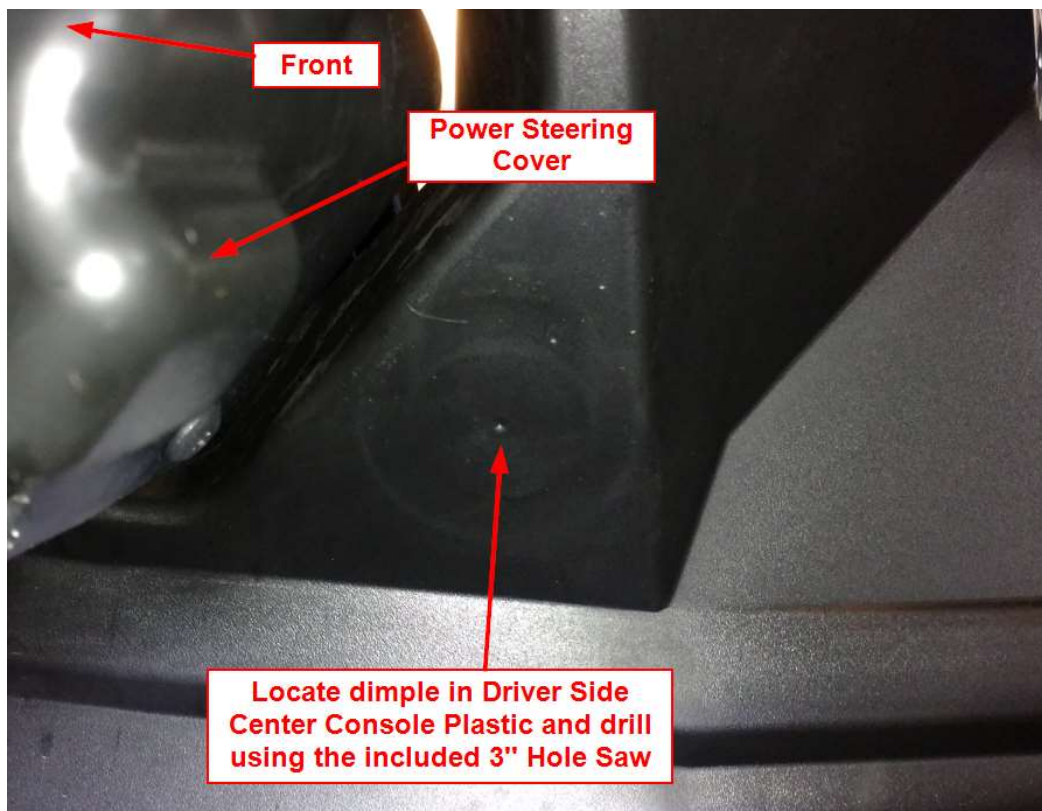
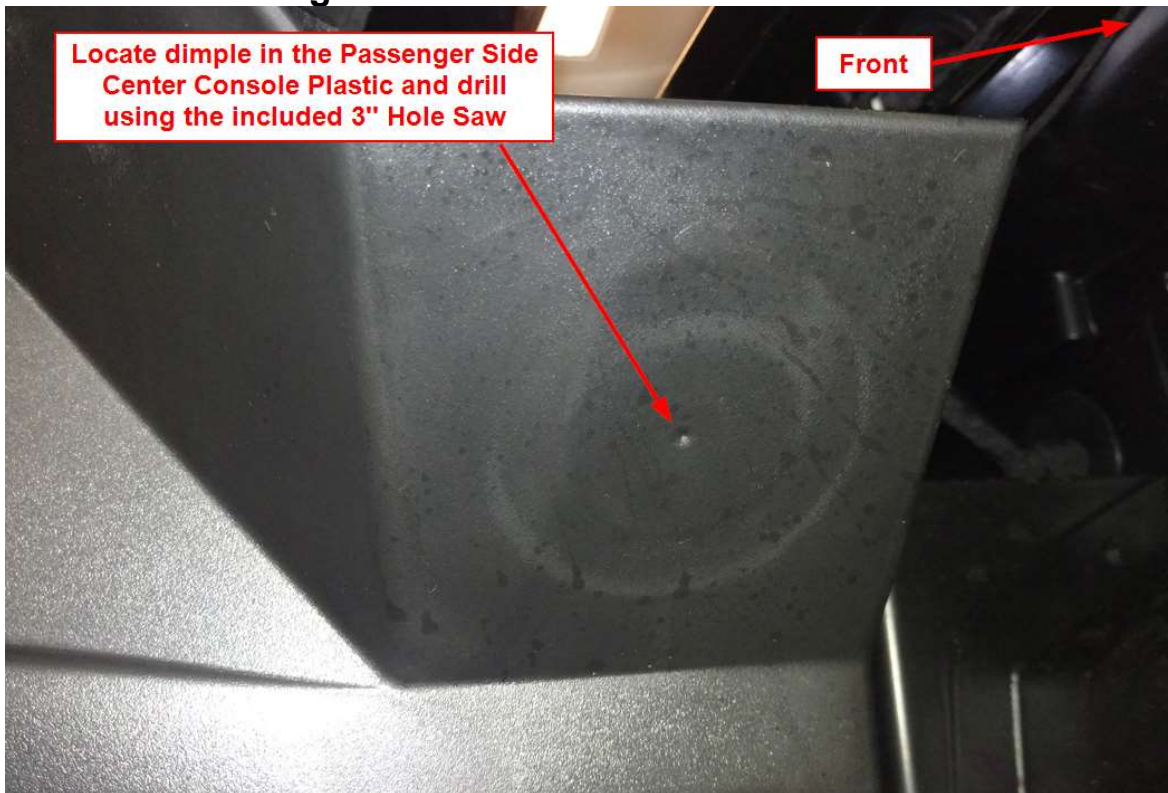

Figure 10
Figure 11
- c. Locate the dimples in the Center Tunnel on the Driver and Passenger Side and drill using the included 3" Hole Saws as shown in Figure 10 and Figure 11. Debur as necessary and cut the "V" shaped notch as mentioned before.